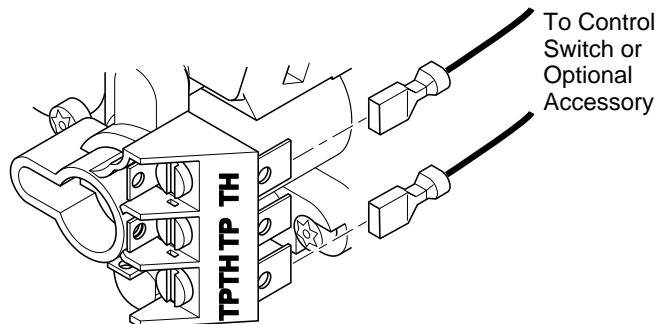

Figure 48 - Control Valve Terminals
1. Connect one terminal of 25 ft. wire for the wall switch to the TPTH terminal on the valve. Connect remaining wire terminal to the TH terminal on the valve. Make sure that the wire terminals are in the positions on the unit as pictured in Figure 48. If wires are not connected as shown the switch will not work.
3. Connect one terminal of the wire for the wall thermostat to the THTP terminal on the valve. Connect remaining wire terminal to the TH terminal on the valve. Make sure that the wire terminals are in the positions on the unit as pictured in Figure 48, page 22. If wires are not connected as shown the thermostat will not work.
2. Disconnect wires from THTP and TH on control valve that lead to the switch (see Figure 48, page 22). Discard switch plate, screws, and nuts.
- Connect the wires from the receiver to the valve at TH and THTP (see Figure 48, page 22).